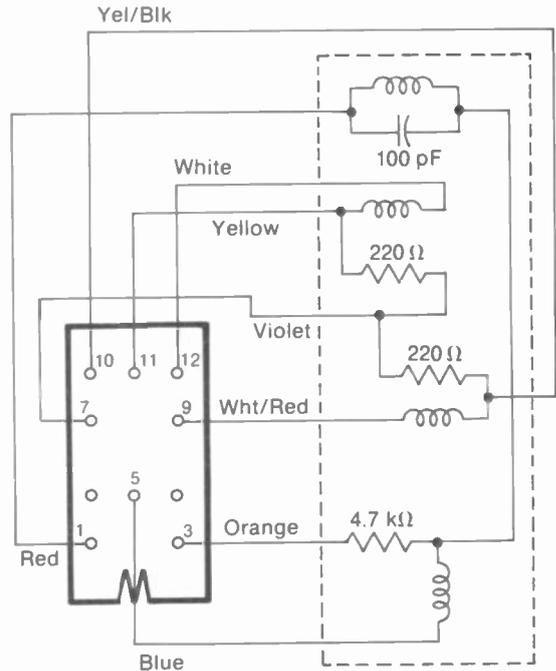

FIGURE 22-18 A 90° YOKE FOR COLOR PICTURE TUBE. (a) PHOTO; DIAMETER IS 6 1/2 IN.; (b) WIRING DIAGRAM. (TRIAD-UTRAD).
**Color yoke.** See Fig. 22-18. This is a 90° yoke